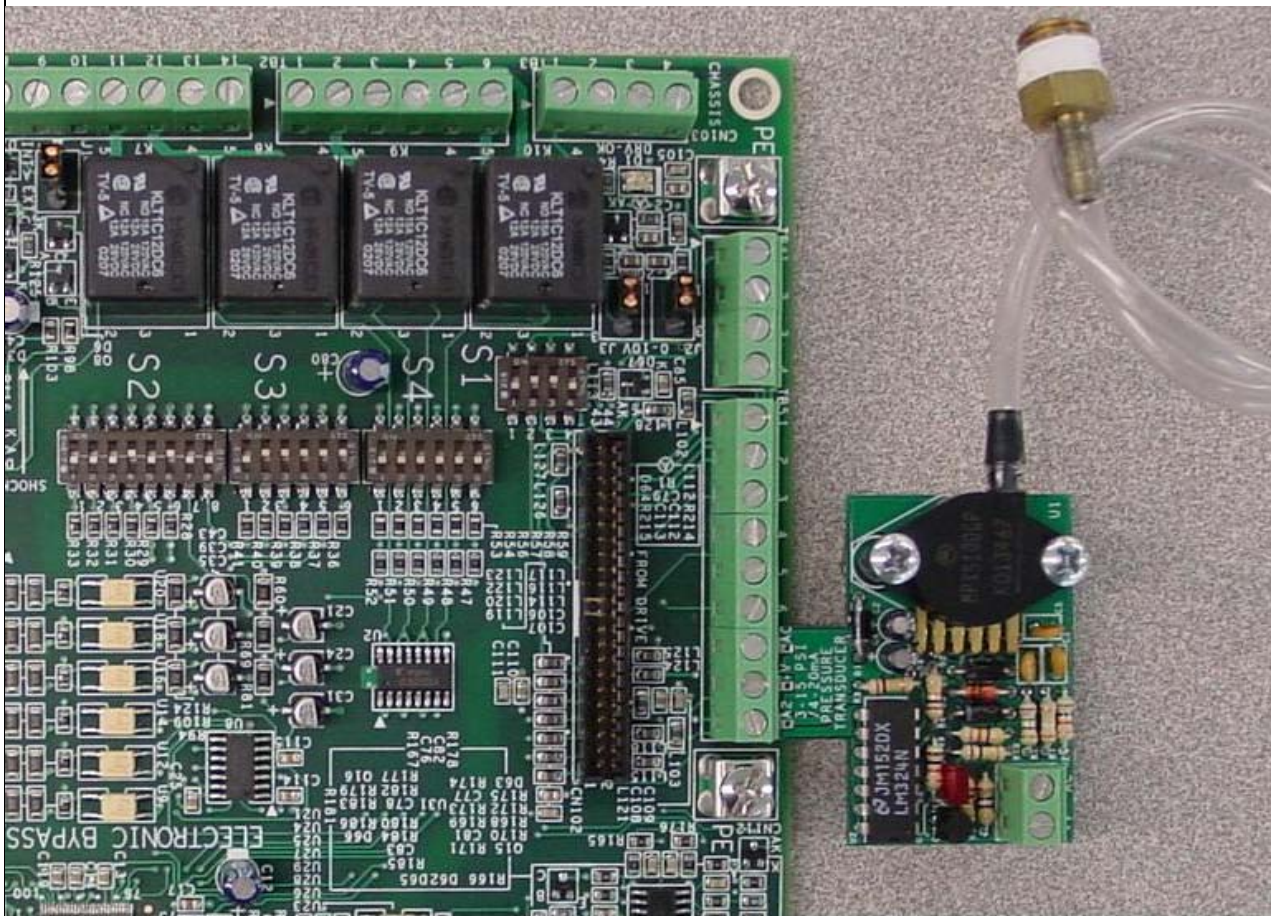

Figure 4. Installation of Pressure Sensor Card to E7L Electronic Bypass Control
Refer to Figure 4 – Installing Pressure Sensor PCB on E7L Electronic Bypass
11. Install the Pressure Sensor Card on the Electronic Bypass Control inside the E7L Bypass panel, as shown in Figure 4. The fingers will fit inside the terminal holes of the board's TB5, Pins 7, 8 and 9. If the transducer card is to be installed on the Electronic Bypass Control, in the field, a short or right-angled screwdriver will be necessary to tighten the three terminal screws. Please note that the card will be mounted with topside up, where the components are visible and not the